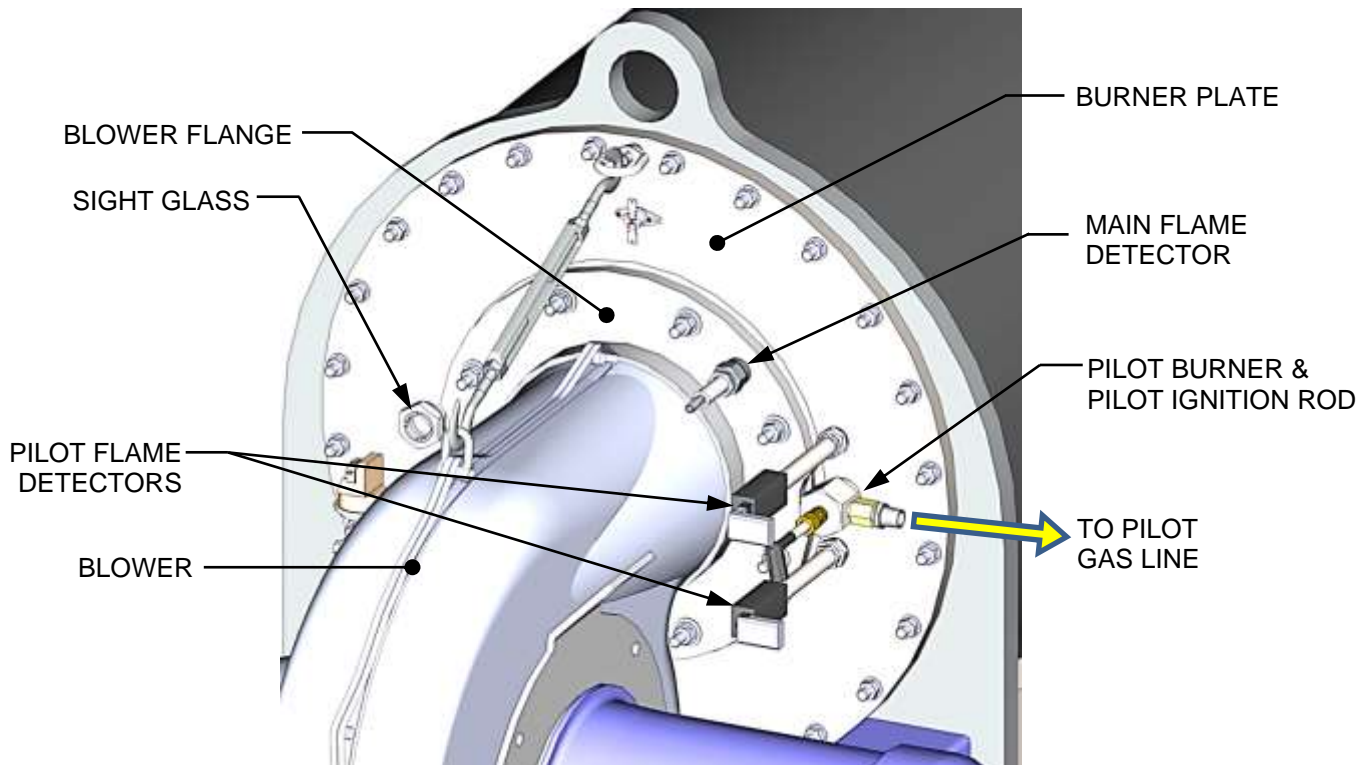
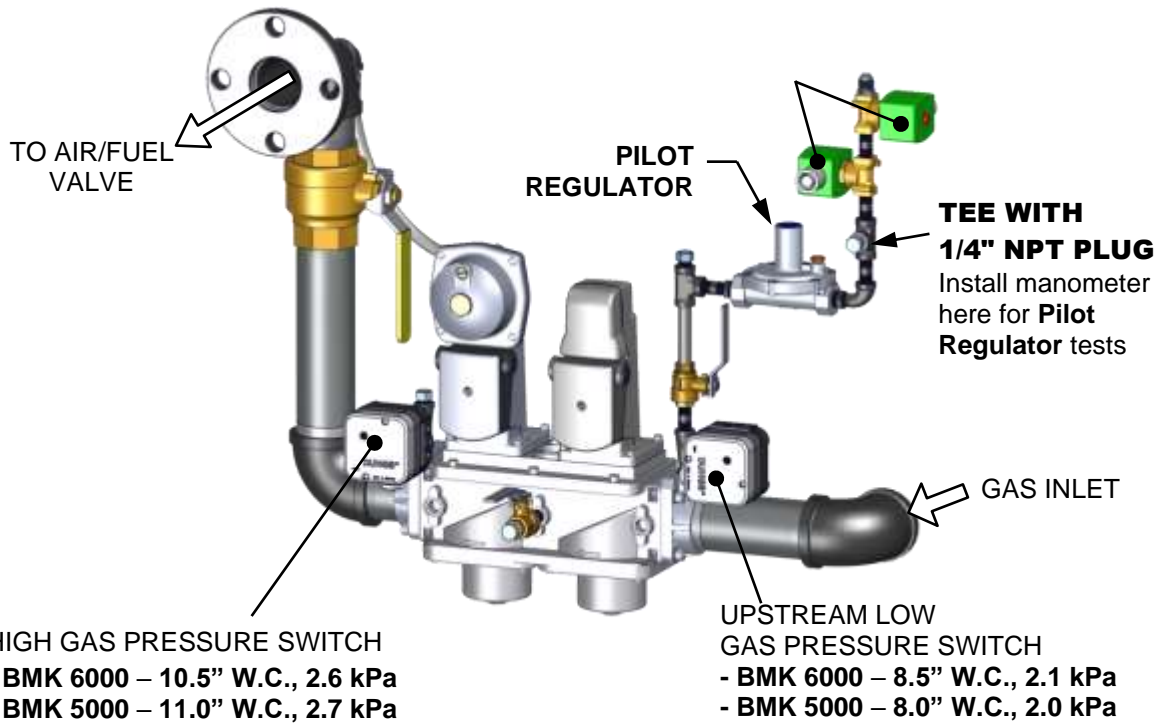
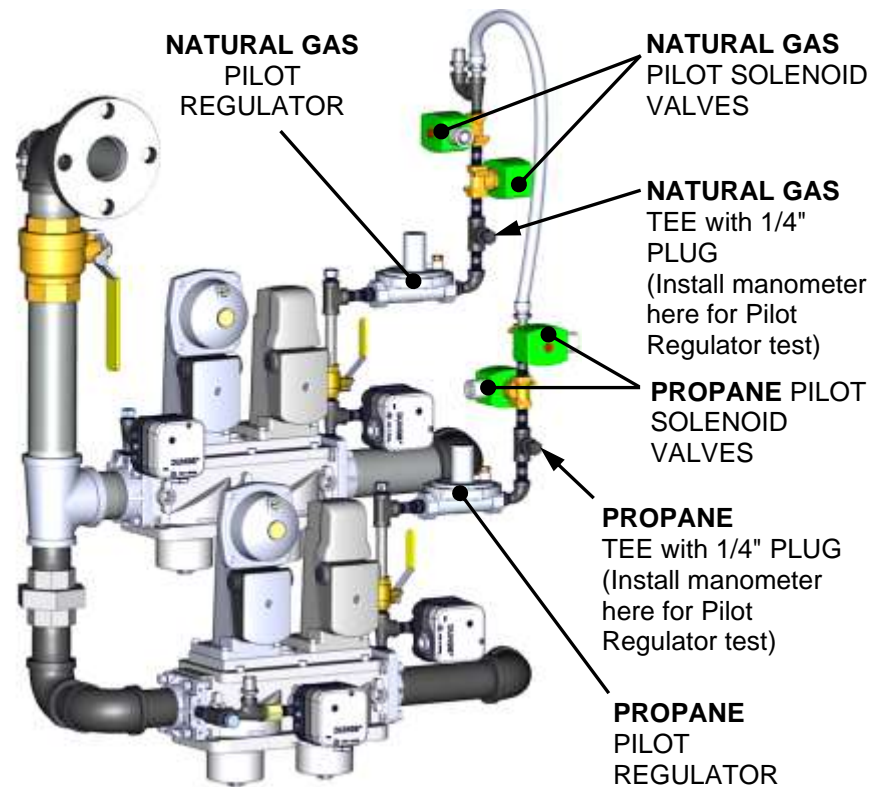

Figure 4-1a: Pilot Burner, Main & Pilot Flame Detector Mounting Locations
Figure 4-4a: BMK 5000/6000 Single Fuel Pilot Regulator Mounting Location
Figure 4-4b: BMK 5000/6000 Dual Fuel Pilot Regulator Mounting Location
The Pilot Burner (P/N 29700) is located on the right-front of the Burner Plate. It contains an ignition cable, the Pilot gas line connected to the bushing, and the Pilot Burner Rod (P/N 66100), which should be inspected and/or replaced according the schedule in Table 4-1a. Figure 4-1a shows the location of the Pilot Burner and related components.
3. Disconnect the ignition cable from the Pilot Burner (Figure 4-1a).
4. Using a 1/2" open-end wrench, disconnect the Pilot gas line from the reducer fitting and elbow shown in Figure 4-1a.
The Main Flame Detector (**Replacement Kit P/N 65182**) is located on the Blower Flange near the top of the unit (see Figure 4-1a, above). The Main Flame Detector may be hot. Allow the unit to cool sufficiently before removing the Main Flame Detector. Inspect or replace the Main Flame Detector as follows:
Benchmark 5000 & 6000 standard models feature one Pilot Regulator system in the Natural Gas gas train, while Benchmark 5000 & 6000 Dual Fuel units have two Pilot Regulator systems, one in the Natural Gas gas train (see Figure 4-4a) and one in the Propane gas train (see Figure 4-4b).
3. Remove the 1/4” NPT plug from the Tee on the outlet side of the Pilot Regulator (Figure 4-4a or Figure 4-4b) and insert a NPT-to-barbed adapter fitting.
5. Remove the cap from the Pilot Regulator to access the gas pressure adjustment. Rotate the regulator adjustment (beneath cap) clockwise (CW) to its highest possible pressure setting.
10. Pull out one of the Pilot Flame Detectors (see Figure 4-1a, above) and look into the observation port on the front plate. You should see the orange glow of the Pilot flame during the ignition trial period.
3. Remove the pipe plug from the 1/4” NPT port on the outlet side of the Pilot Regulator (Figure 4-4a or Figure 4-4b, above) and insert a NPT-to-barbed adapter fitting.
5. Remove the cap from the Pilot pressure regulator and rotate the regulator adjustment (beneath cap) clockwise (CW) to its highest possible pressure setting.
9. Pull one of the Pilot Flame Detectors out (see Figure 4-1a) and look into the port in the front plate. You should see the orange glow of the Pilot flame during the ignition trial period.